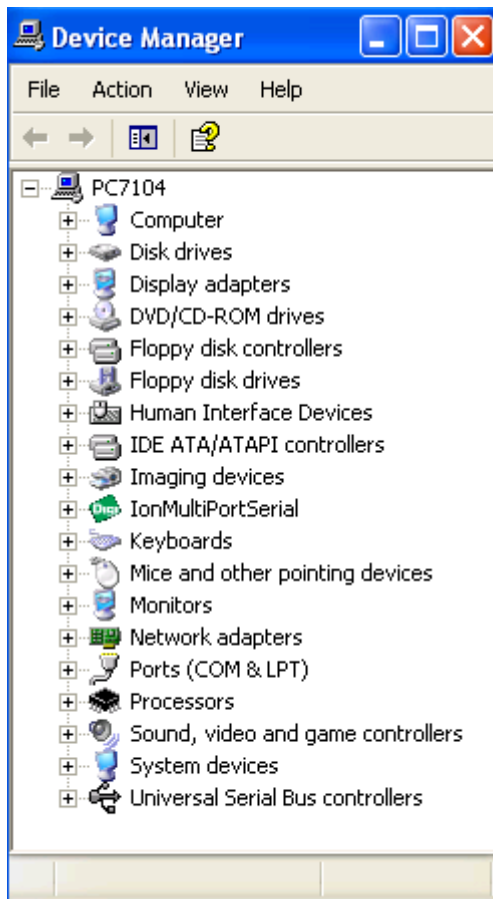

FIG. 7
4. On the list of devices displayed in Device Manager, click on the plus (+) sign in front of “Ports (COM & LPT)”. See FIG. 7.